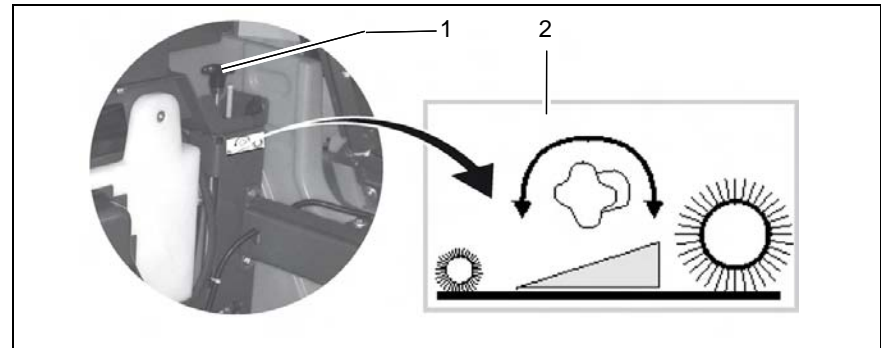

Fig.16
The sweeping track width can be adjusted at the star-shaped knob (Fig. 16/1) as follows:
- Turn star-shaped knob (Fig. 16/1) to the left = wider sweeping track
to the right = smaller sweeping track (Sweeper adjustment sticker (Fig. 16/2)